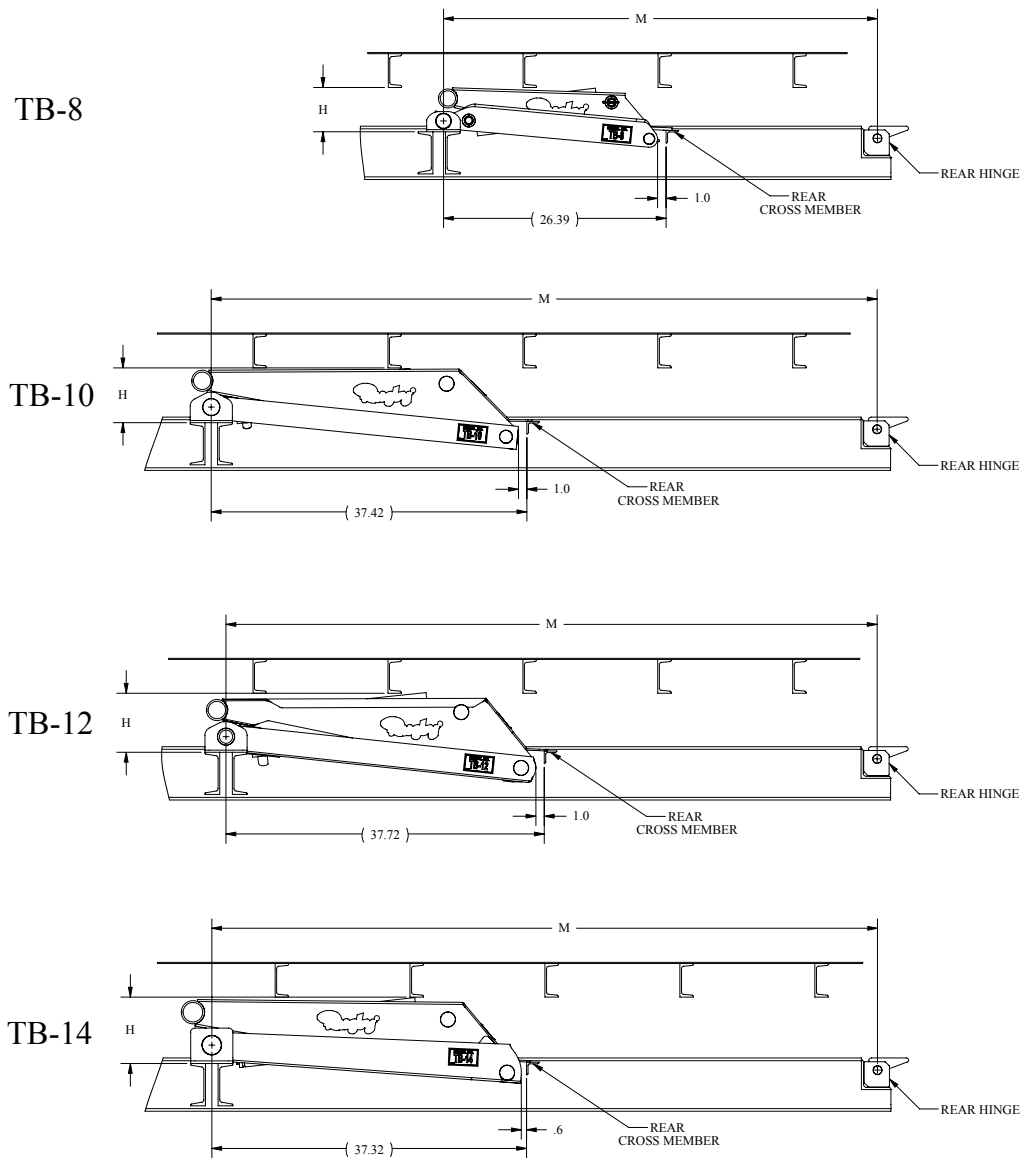
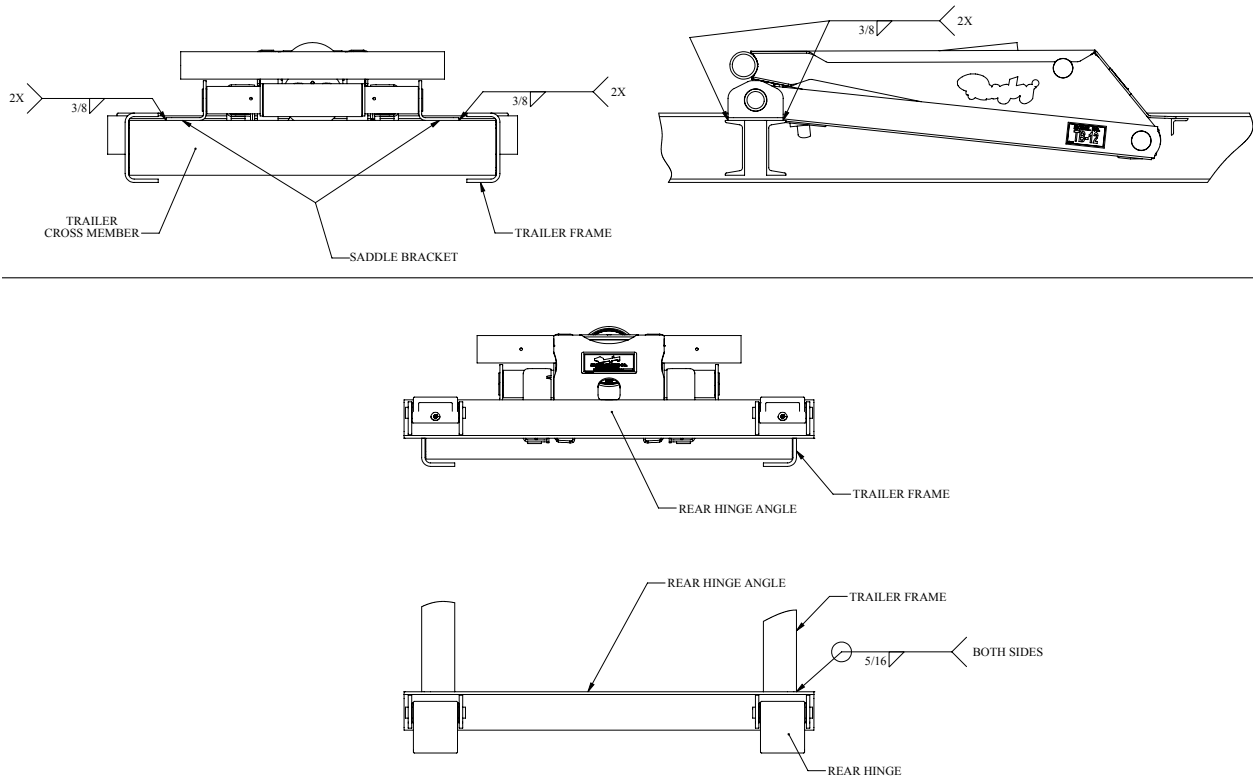

Figure 6
Figure 7
2. Position the cross members, hoist, & rear hinge onto the trailer frame as shown in Figure 6. The top of the front & rear cross members should be at the same height.
1. Once the hoist is positioned, weld the saddle brackets & the rear hinge to the trailer frame as shown. (**Figure 7.**) Be sure to maintain clearance between the rear cross member and the rear of the hoist as shown in Figure 6.